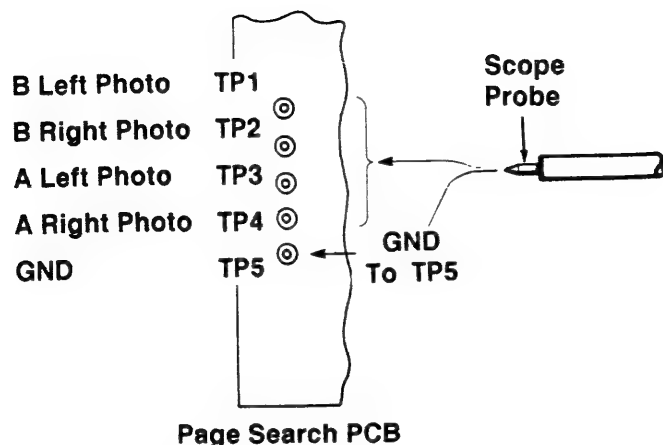

Figure 2-5.3B
3. Connect the Channel 1 Scope Probe to TP4 (A Row Right) and TP5 (GND) on the M-656 Page Search PWB (Figure 2-5.3B).
9. Connect the Channel 1 Scope Probe to TP3 (B Row Left). See Figure 2-5.3B.